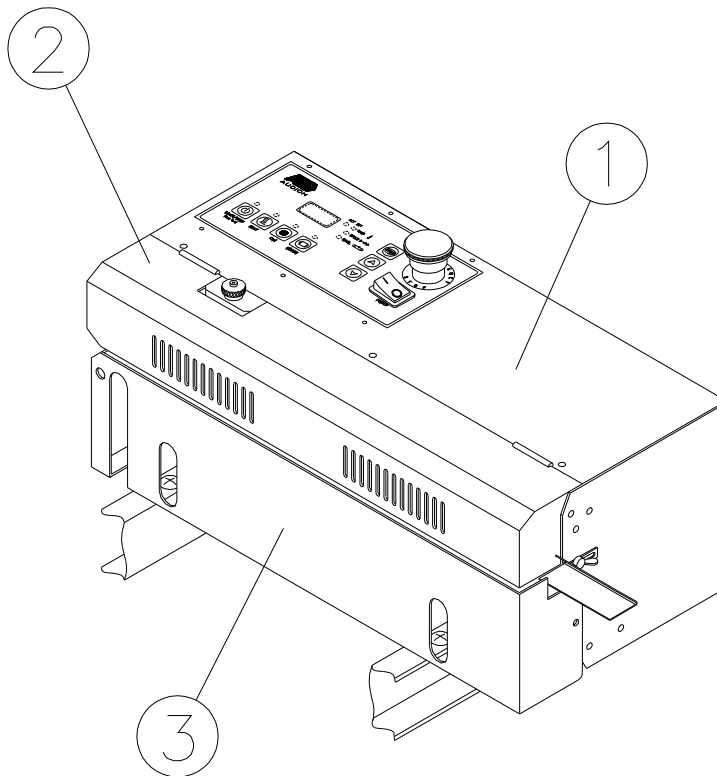

Fig. 5
- See fig. 5. - Remove the back cover (1).
- Open the upper front cover (2).
- Remove the lower front cover (3).